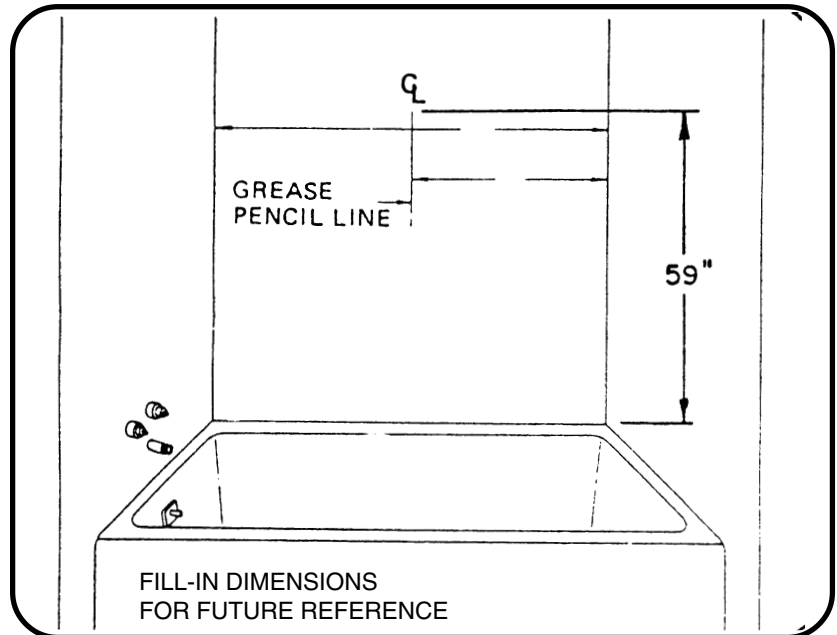

FIG. 1
1. Measure bathtub alcove to find center of backwall. Scribe a light grease pencil line at this point (at least 59" above top of bathtub). Measure and lightly mark center on top edge of **Center Panel**. This will position **Center Panel** with equal overlaps on each **Corner Panel**. Remove any objects that protrude into bathtub alcove area below 59" such as soap dishes or towel bars. See Fig. 1.